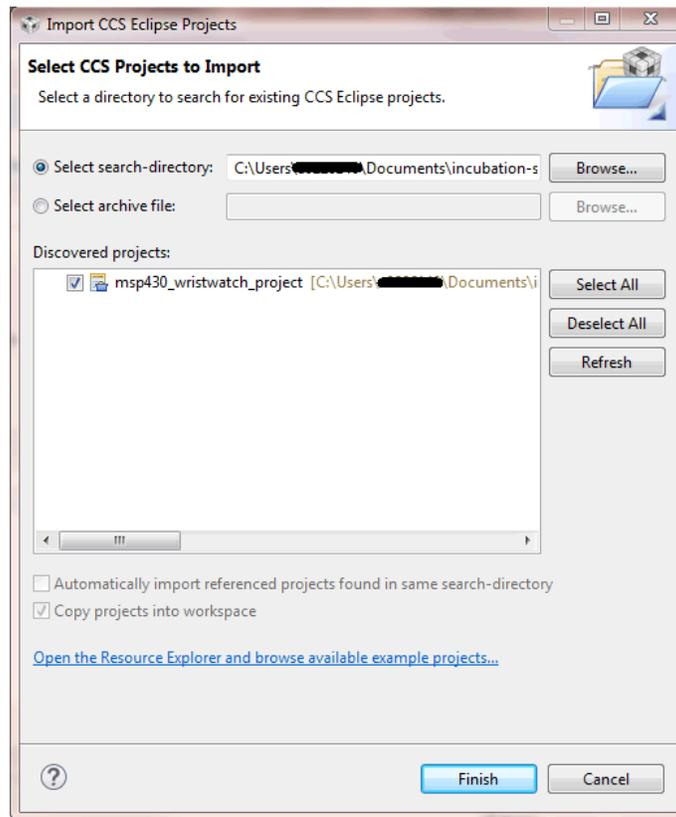

Figure 5. Select CCS Project to Import
2. Click Finish (see Figure 5)